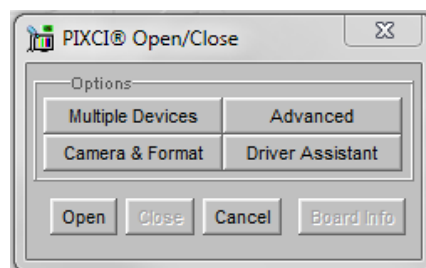

Figure 3: Open / Close
2. Select PIXCI dropdown menu and select PIXCI Open Close, Figure 3 should appear.